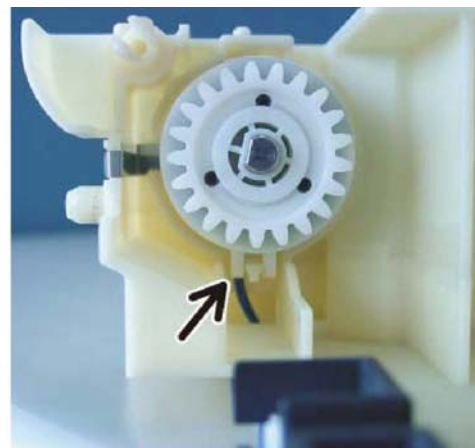

Figure 9 Feed clutch alignment
2. When installing the bypass tray feed clutch, align the cutout of the bypass tray feed clutch with the tab, Figure 9.